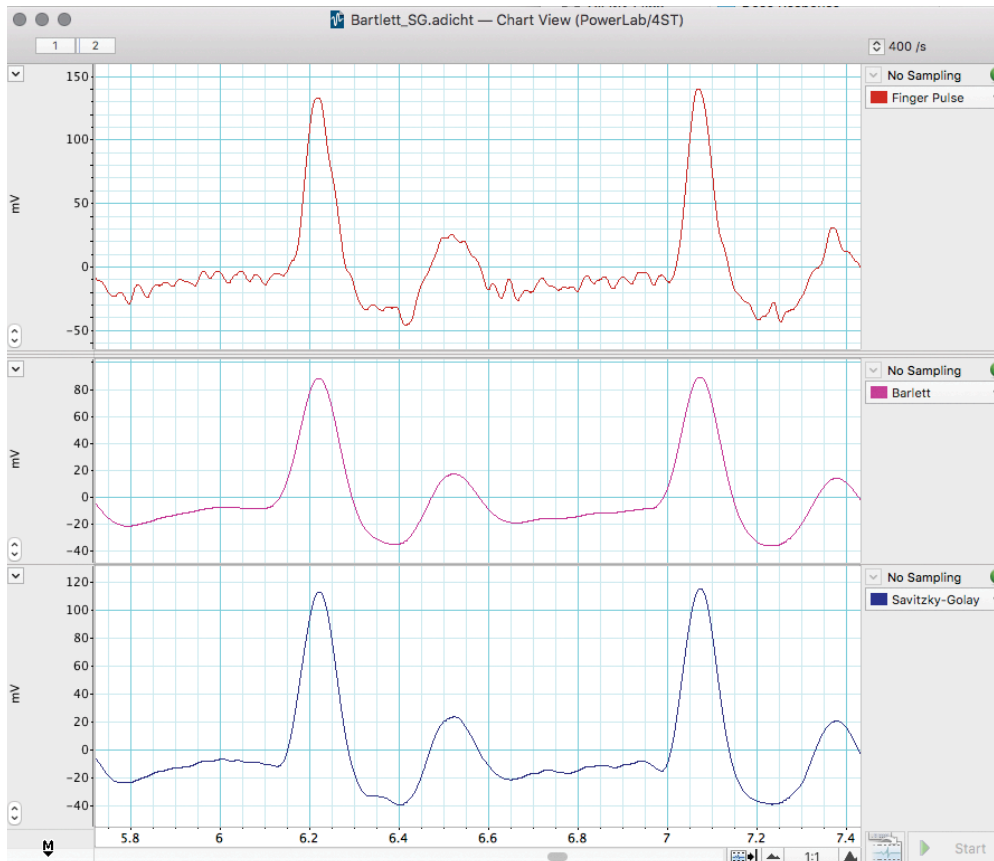

Figure 8 Example used in LabChart Training courses, examining the differing effects of the Bartlett and Savitzky-Golay smoothing functions.
- **Triangular (Bartlett) window smoothing** works by taking the sample point together with a variable number of points on each side in the moving average window, weighting the values (most at the middle, which decreases to zero going out towards the window edges) and averaging them to give the smoothed value at the sample point (Figure 8).